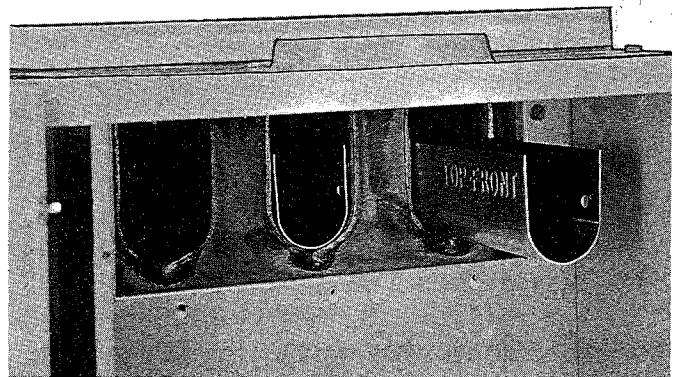

Figure 9 – Remove baffles
6. Remove flue baffles. See Figure 9.